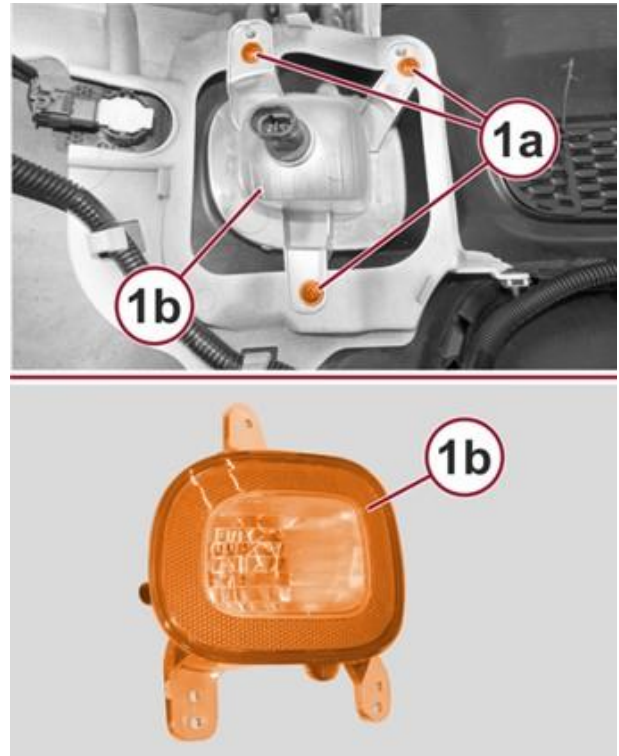

Figure 12 – Bumper Lamp
22. Remove the bumper lamp fasteners (1a) (Figure 12).
23. Remove and **DISCARD** the bumper lamp (1b) (Figure 12).
24. Position the **NEW** bumper lamp (1b) to the rear fascia (Figure 12).
25. Install and securely tighten the bumper lamp fasteners (1a) (Figure 12).